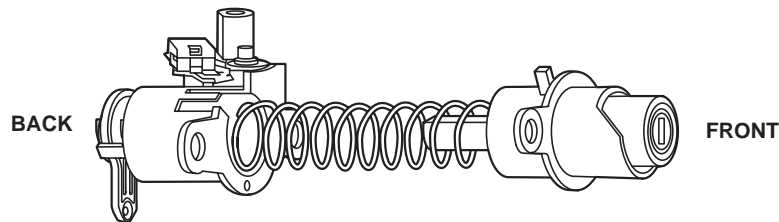

FIGURE 6
16. (Refer to Figure 6). Insert the compression spring (M) into the front of the rear housing (R) and then fit the completed front housing (S) (with the lock, the front housing, and the driver) over the other end of the compression spring. Use two (2) 3/8 inch binder clips (not included) to hold the two (2) housings together.